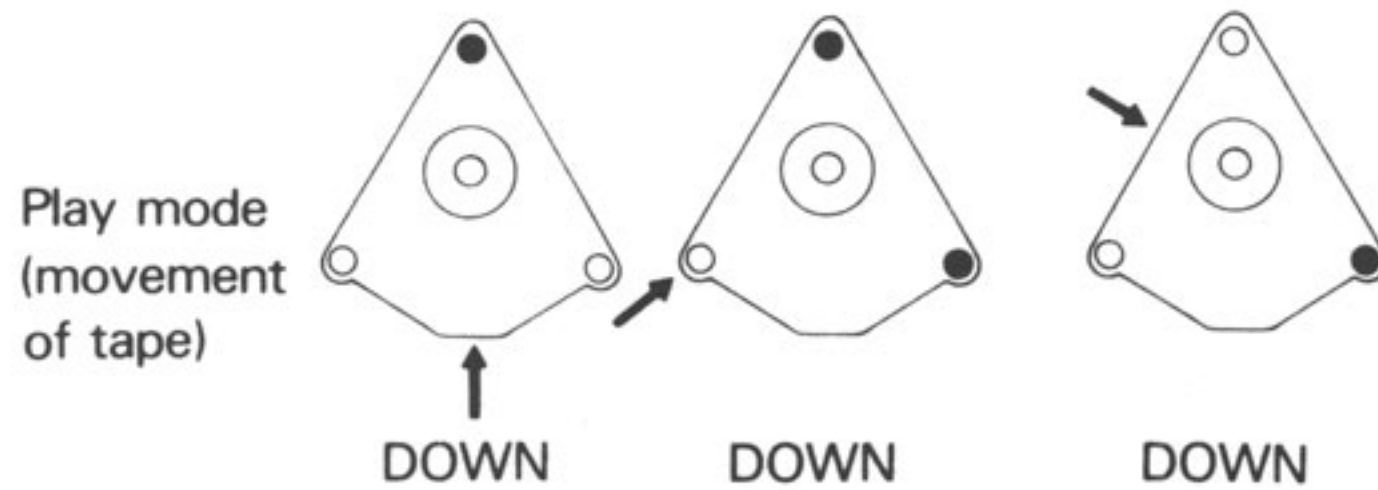

Figure 6-9. Effect of Capstan Motor on Tape Movement
STEP 1. Using Figure 6-9, determine where the roller shim should be inserted to correct the movement of the tape.